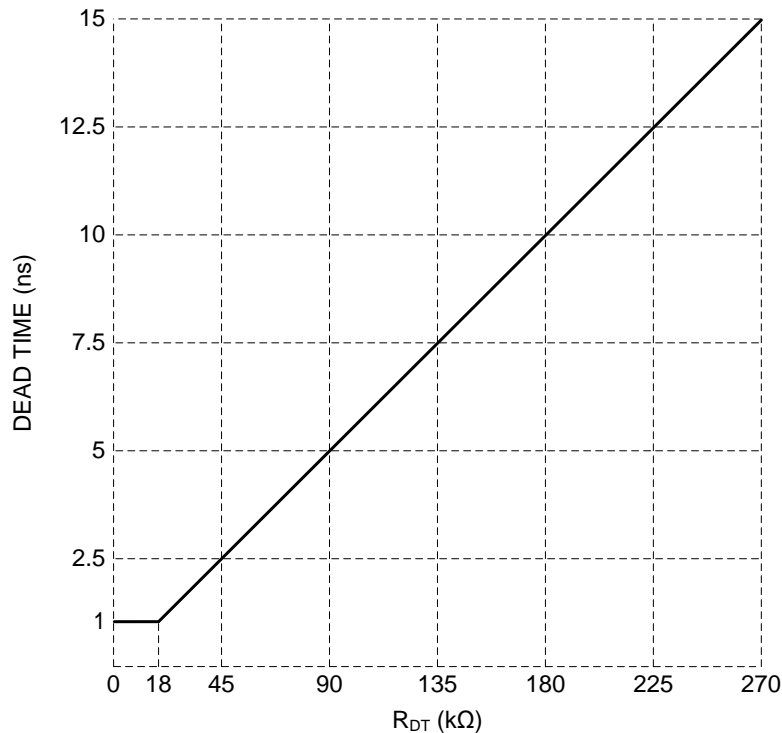

Figure 22. Dead Time vs RDT
Connecting a resistor,  $R_{DT}$ , between DTH and/or DTL and GND sets an additional delay from 1ns to 15ns to the dead time. Choose a  $R_{DT}$  value from Equation (1) or Figure 22, as follows: